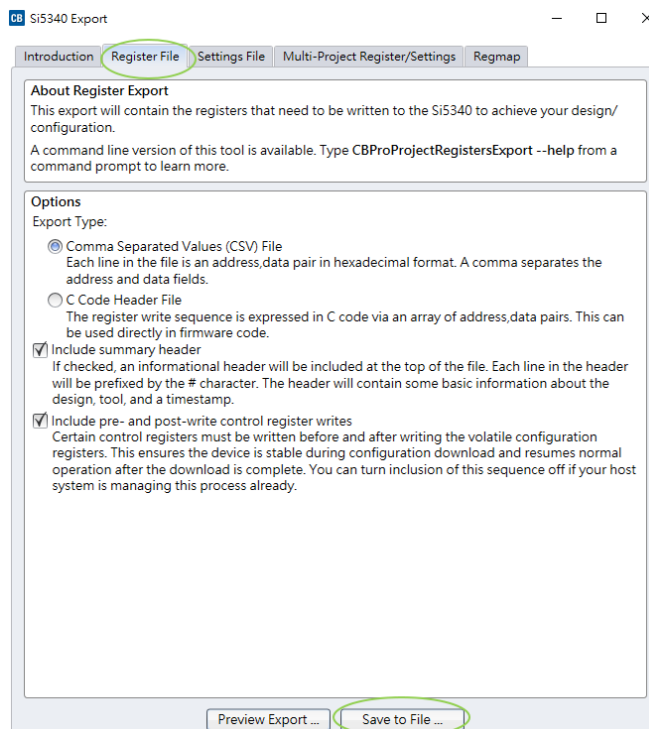

Figure 2-15 Save Register Files
6. In the Si5340 Export dialog, select “Register File” tab. Then, select “Comma Separated Values (CSV) File”, and check both items “include summary header” and “include pre- and post-write control register writes” as shown in **Figure 2-15**. Finally, click “Save to File...” button to save file as **Si5340B-Registers.txt**.